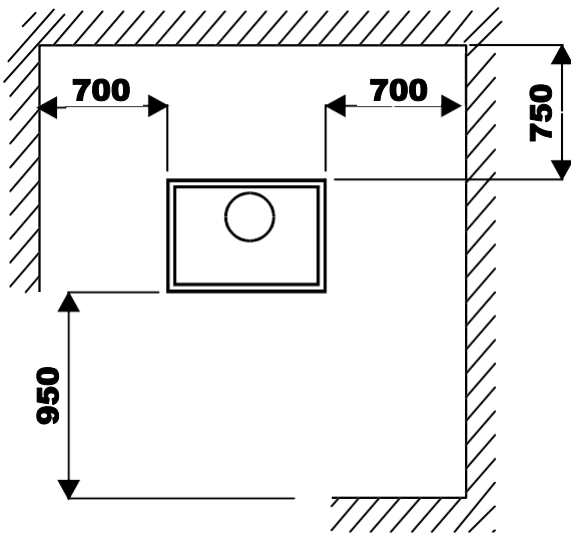

Fig. 3
- When installing the stove, observe the necessary safety distances for the oven and chimney from combustible surfaces (wooden or papered walls, wooden floors...). Safety distances must be respected when the lining on walls or nearby areas may be damaged or deformed by temperature (varnish, paint, PVC...). Fig. 3.